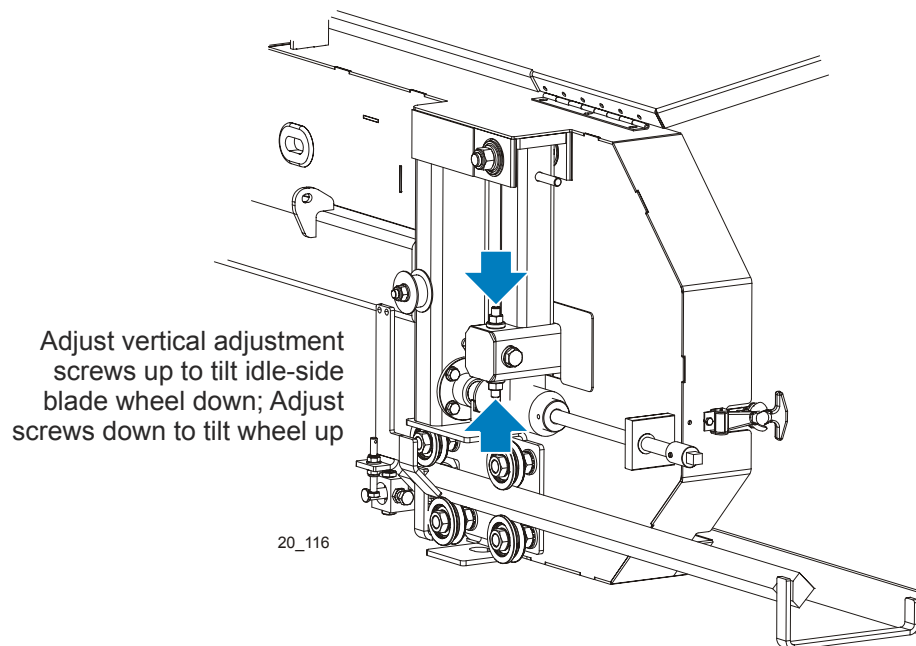

**FIG. 6-5**
**See Figure 6-5.** Use the vertical adjustment screws to adjust the drive-side blade wheel. To tilt the wheel, loosen the top adjustment screw one quarter turn. Loosen the jam nut on the bottom adjustment screw and tighten the screw. Tighten the top and bottom jam nuts.